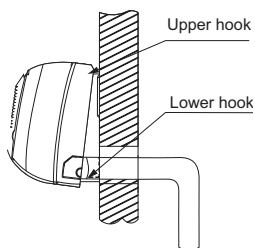

Fig. 18 —Indoor Unit Installation
8. Push lower part of indoor unit up on wall, then move indoor unit from side to side, up and down to check if it is hooked securely (see Fig. 18).